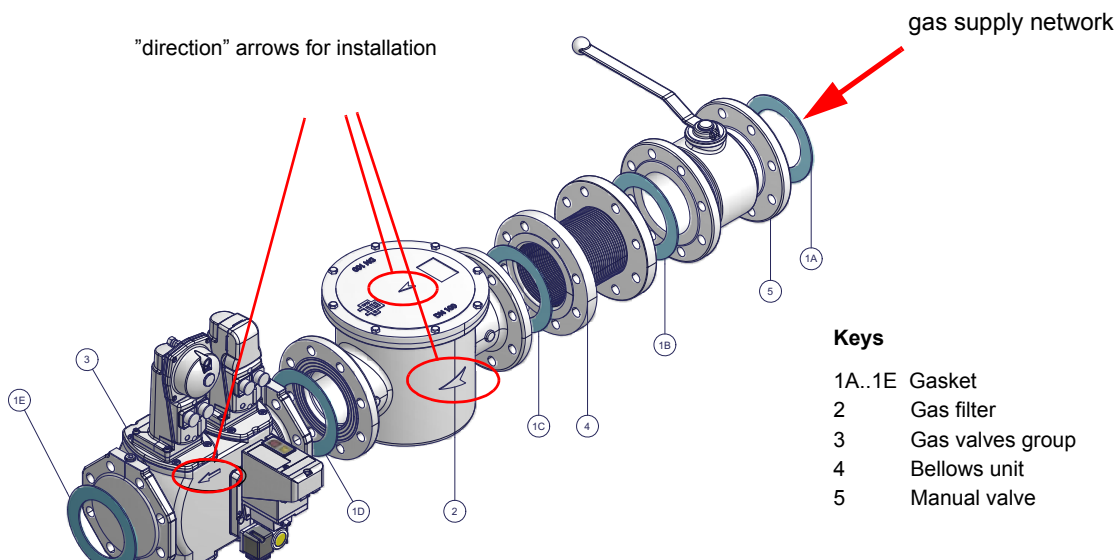

Fig. 5 - Example of gas train
1-b) in case of flanged joints: place a gasket (no. 1A..1E - Fig. 5) between the elements
**ATTENTION:** once the gas train is mounted according to the diagram on Fig. 5, the gas proving test must be performed, according to the procedure set by the laws in force.
**ATTENTION:** once the gas train is mounted according to the diagram (Fig. 5), the gas proving test must be performed, according to the procedure set by the laws in force.